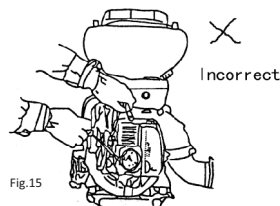

Fig.15
- 1.Engine starts difficultly or can not start. Check if the sparking plug has sparked-over. Screw down the sparking plug; put the side pole to touch the cylinder. Full the starter and watch between the poles of sparking plug whether there are sparks. Pull the starter carefully; do not touch the metal part of sparking plug for prevention of getting an electric shock as shown in Fig.15.